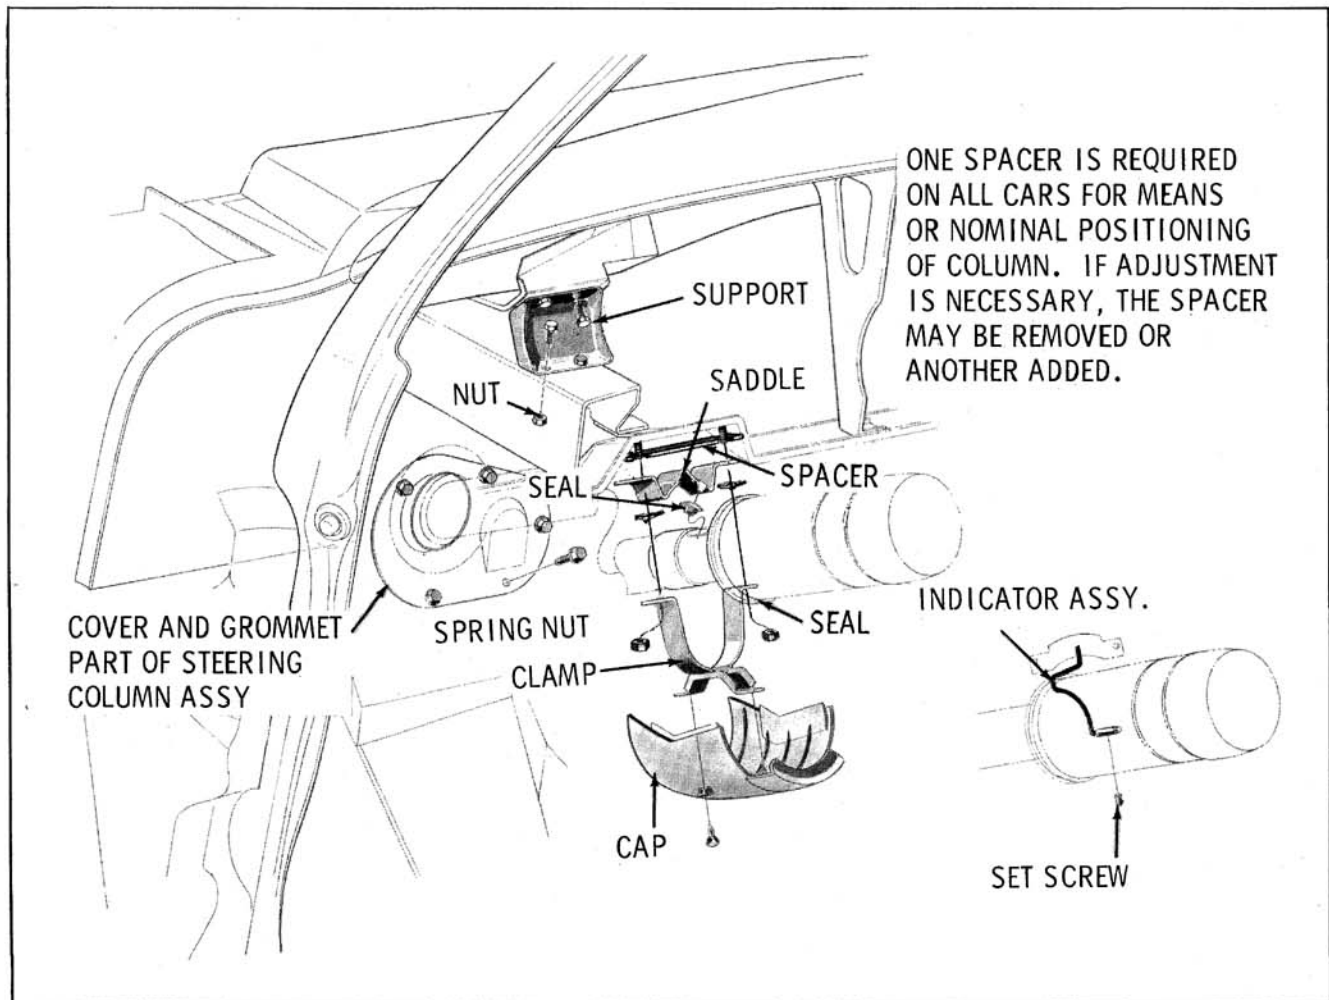

Fig. 8-80 Steering Column Installation (52 through 86 Series)
### REMOVE (Figs. 8-80 and 8-81)
**INSTALL (Figs. 8-80 and 8-81)**